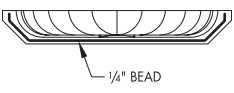

FIGURE 1A
1. Apply a 1/4" bead of polyurethane construction adhesive along the bottom edge of the Niche tub (SEE FIGURE 1A).